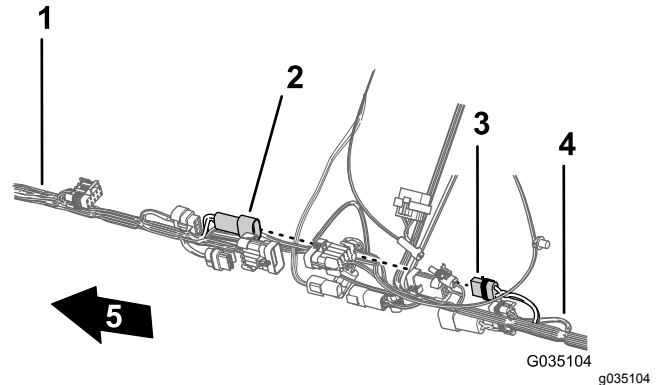

Figure 90
5. Connect the 2-pin connector of the front harness for the hose-reel power into the 2-socket connector of the rear harness for the hose-reel power (Figure 90).